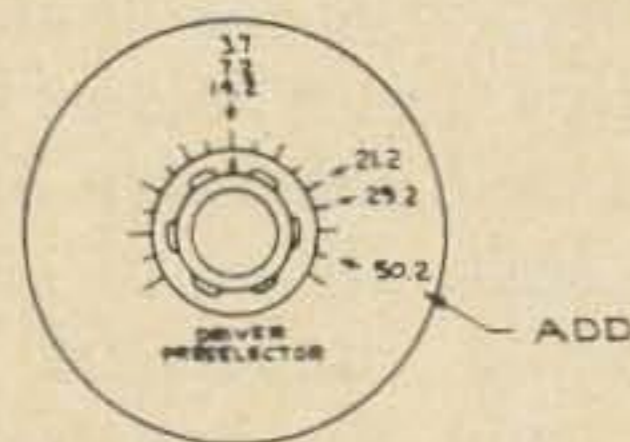

Fig. 4. Adjusting the driver preselector.
14. Adjust driver preselector to Fig. 4.